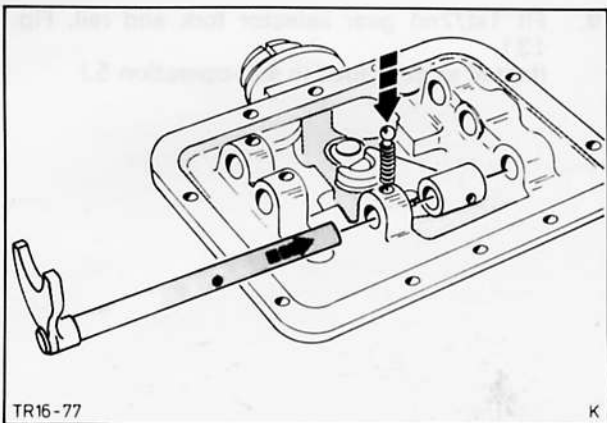

Fig. 128. Fit reverse gear selector fork and rail (fit ball and spring at same time)
5. Fit reverse gear selector fork and rail. To do this, insert spring and ball and press down until selector rail can be pushed in, Fig. 128.